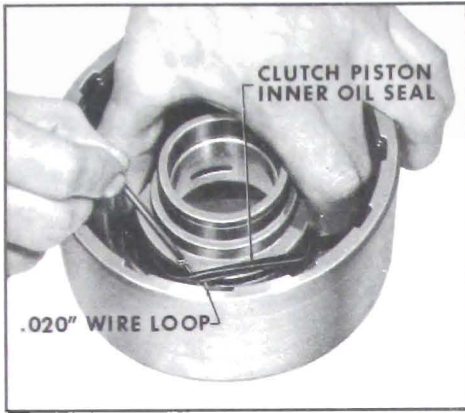

Figure 5-225
3. Lubricate with transmission oil and install new forward clutch piston inner seal with seal lip pointing downward. See Figure 5-225.